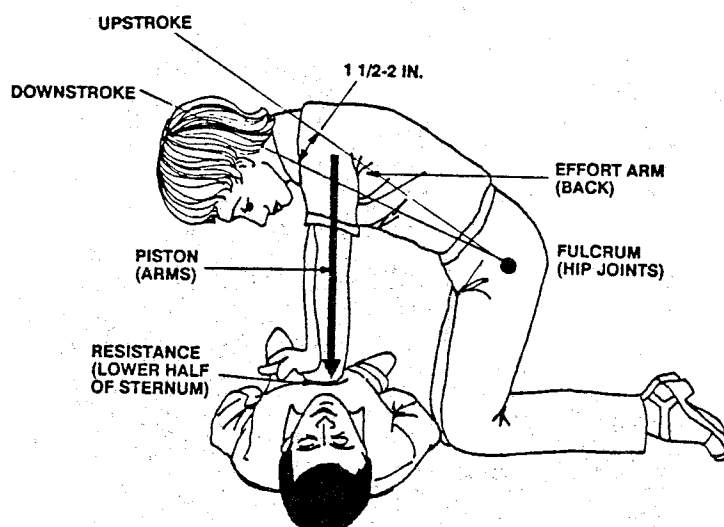

Figure 6 - Exerting Pressure Downward on an Adult
- Position your shoulders directly over victim's breastbone and press downward, keeping arms straight (*Figure 6*). Depress the sternum of an adult 1-1/2 to 2 inches.